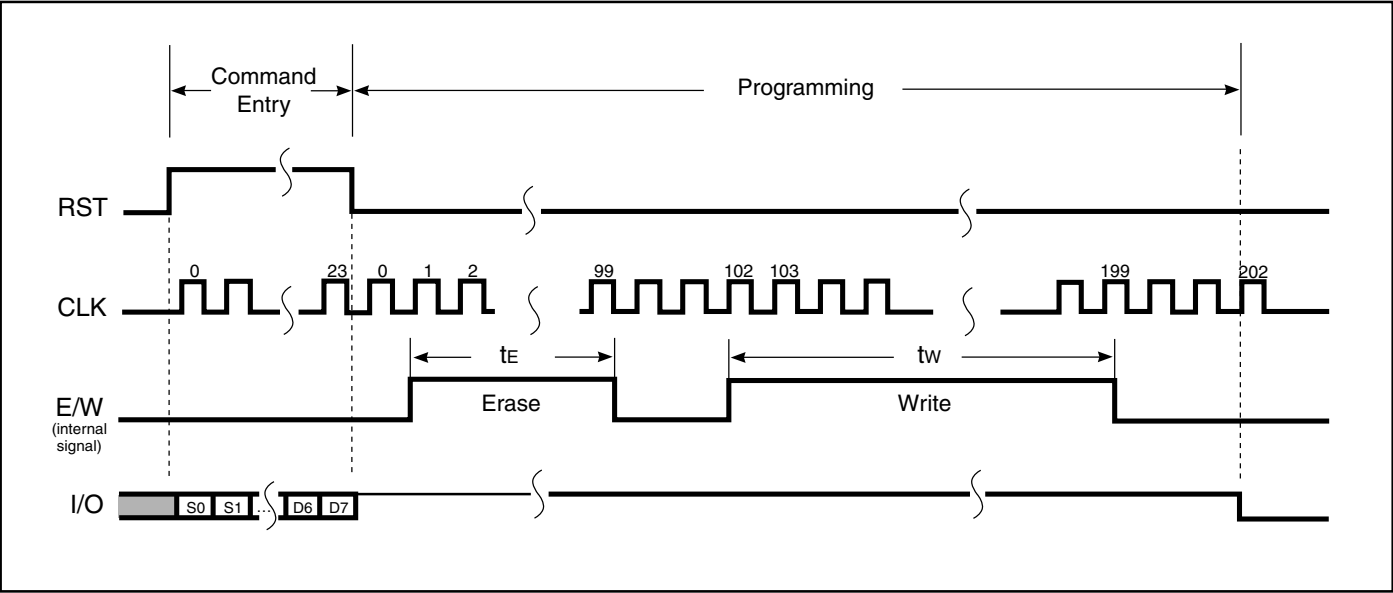

Figure 8. Programming Erase and Write
1. Erase and subsequent write if 203 clock pulses at $f < 20$ KHz are applied. (See Figure 8.)
The write/erase data byte with protect bit command operates similarly to the write/erase data byte with protect bit command except that it also writes 0 to the corresponding protect bit. After the protect bit is set to 0 (write protection enabled), it cannot be changed again. (See Figures 8 and 9.)